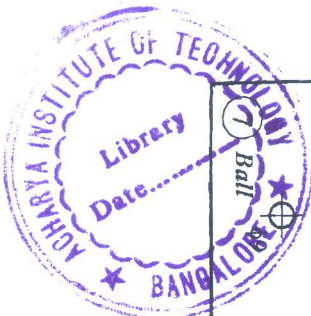

Figure 2. "SQUARE TOOL POST"
- Q.No.6** Figure 2 shows the details of a "SQUARE TOOL POST" of a lathe. Assemble the parts and draw.